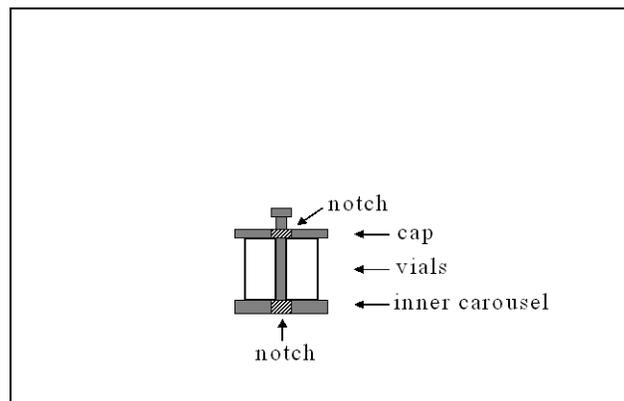

Figure 2. Side view of assembled inner carousel.
- 10.2. Place a carousel cap on each inner carousel. For carousel 0 the notch on its cap must be aligned with the notch of the carousel. (Carousel 0 receives the temperature probe.) The orientations of the notches on the other carousels do not matter. An assembled inner carousel is shown in Figure 2.